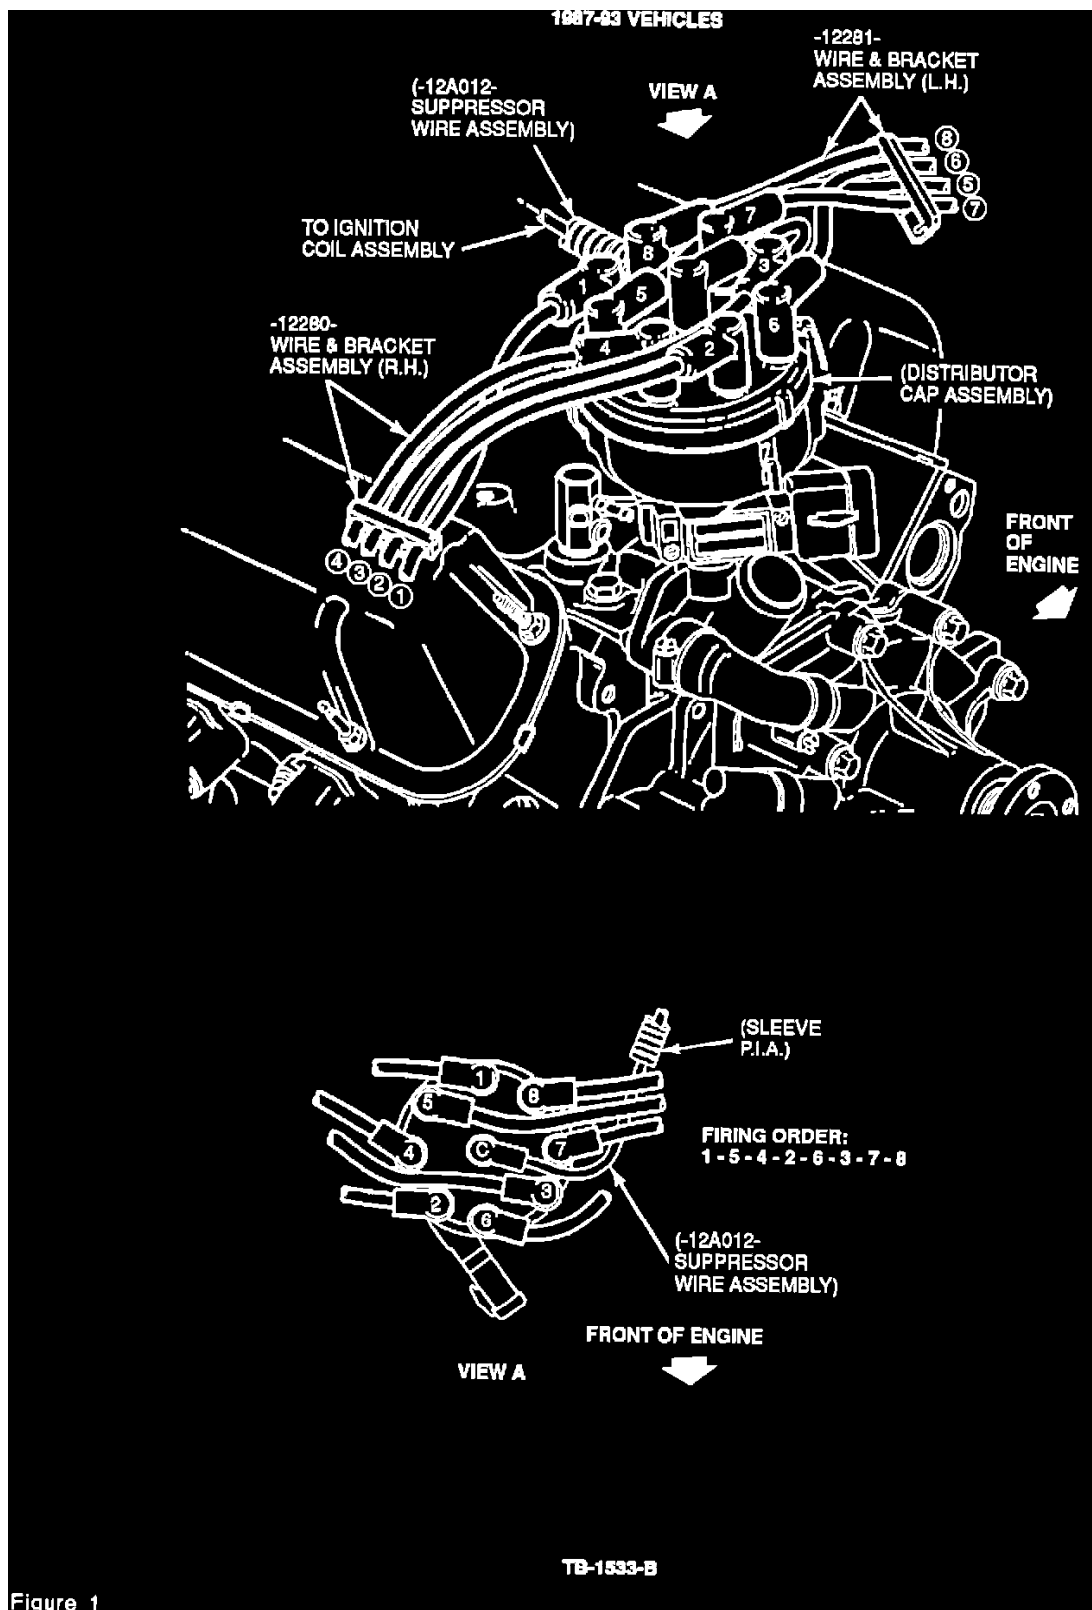

Figure 1
1. Inspect the routing of the spark plug wires. Refer to Figures 1 and 2.